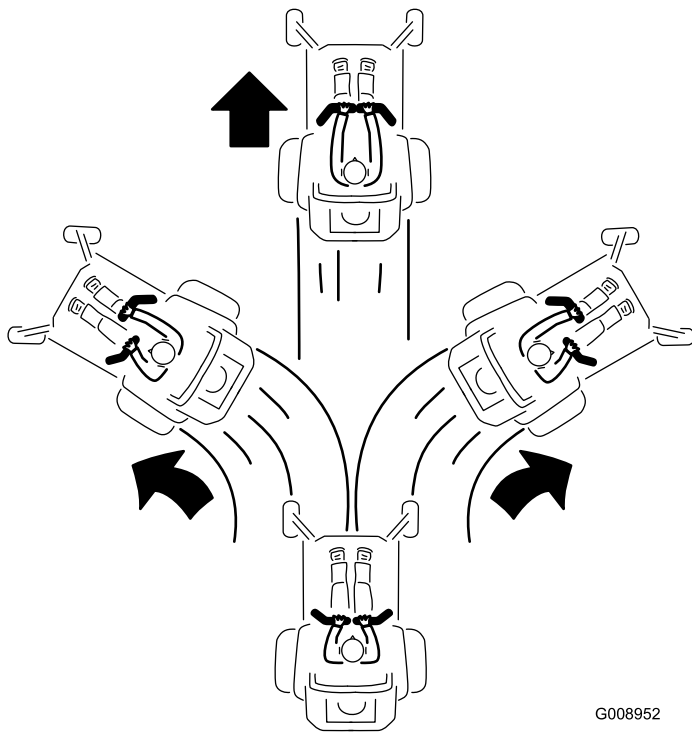

Figure 21
3. To go forward, slowly push the motion control levers forward (Figure 21).